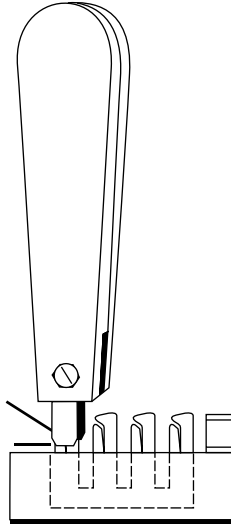

Figure 3-11. Punching wires onto a punchdown block.
1. Form a loop at the end of each patch cable wire and place the loop under the lip of a pin. Position the punchdown tool over the pin, with the cutting edge above the short end of the wire, and press down firmly. The tool forces the wire down between the halves of the forked pin and severs its short end (**Figure 3-11**).